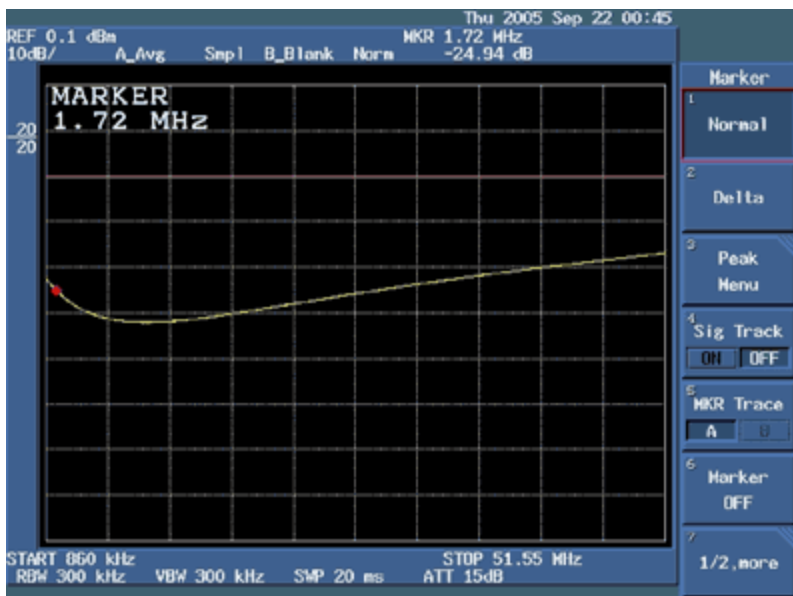

Figure 11. Return loss of the DUT at 1.72MHz.
9. Measure the return loss at 1.72MHz for the DUT, as shown in **Figure 11**.